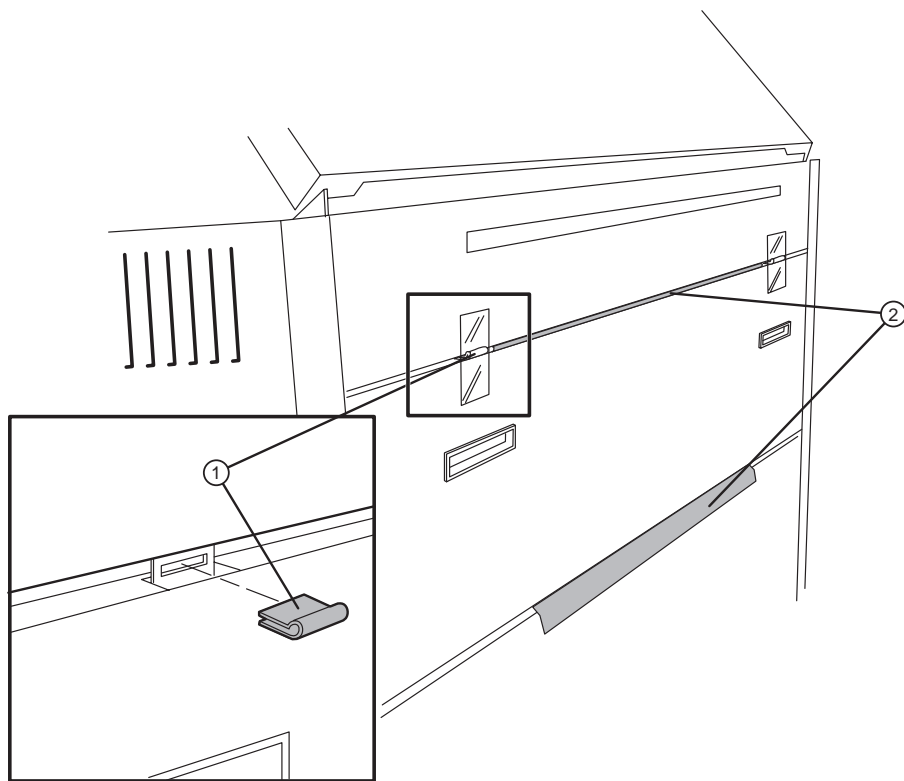

Figure 1-11 Removing the packing materials from the rear of the imagesetter.
①—Cardboard packing strips. ②—Foam packing strips.
3. Remove the cardboard packing and the two (2) plastic inserts near the top of the imagesetter's back panel. Refer to Figure 1-11.